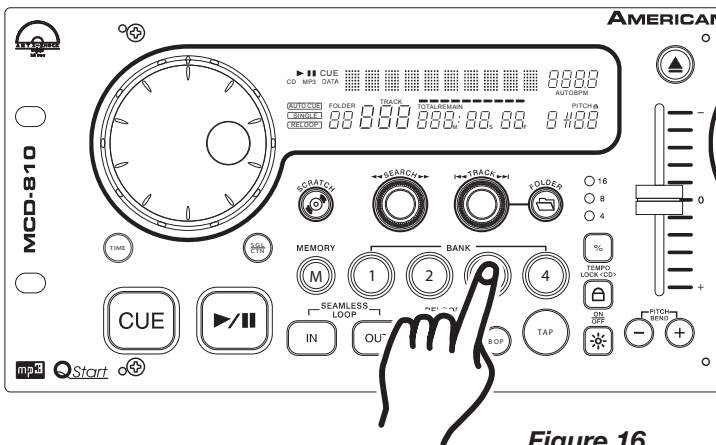

Figure 16
- 1) Create a Cue Point by one of the two means listed on page 16. Press the *MEMORY BUTTON* (12), as in Figure 16. The blue Memory L.E.D. will glow indicating the store memory function has been activated. You may now press any one of the three *BANK BUTTONS* (7) to store your cue point into memory (Figure 16). After pressing one of the *BANK BUTTONS* (7), the corresponding Bank Button L.E.D. will flash. The blue L.E.D. on the the *BANK BUTTON* (7) will turn red and will remain lit indicating either a loop or cue point is stored in memory. The blue Memory L.E.D. will turn off.